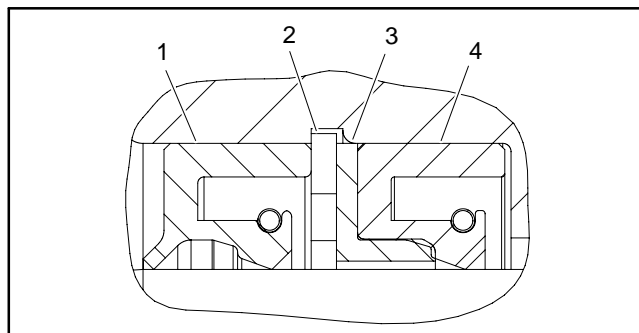

Figure 76
11. Carefully remove dust seal, retaining ring, flange washer and shaft seal from the front flange (Fig. 76). Discard seals.
2. Install new seals into front flange (Fig. 76):